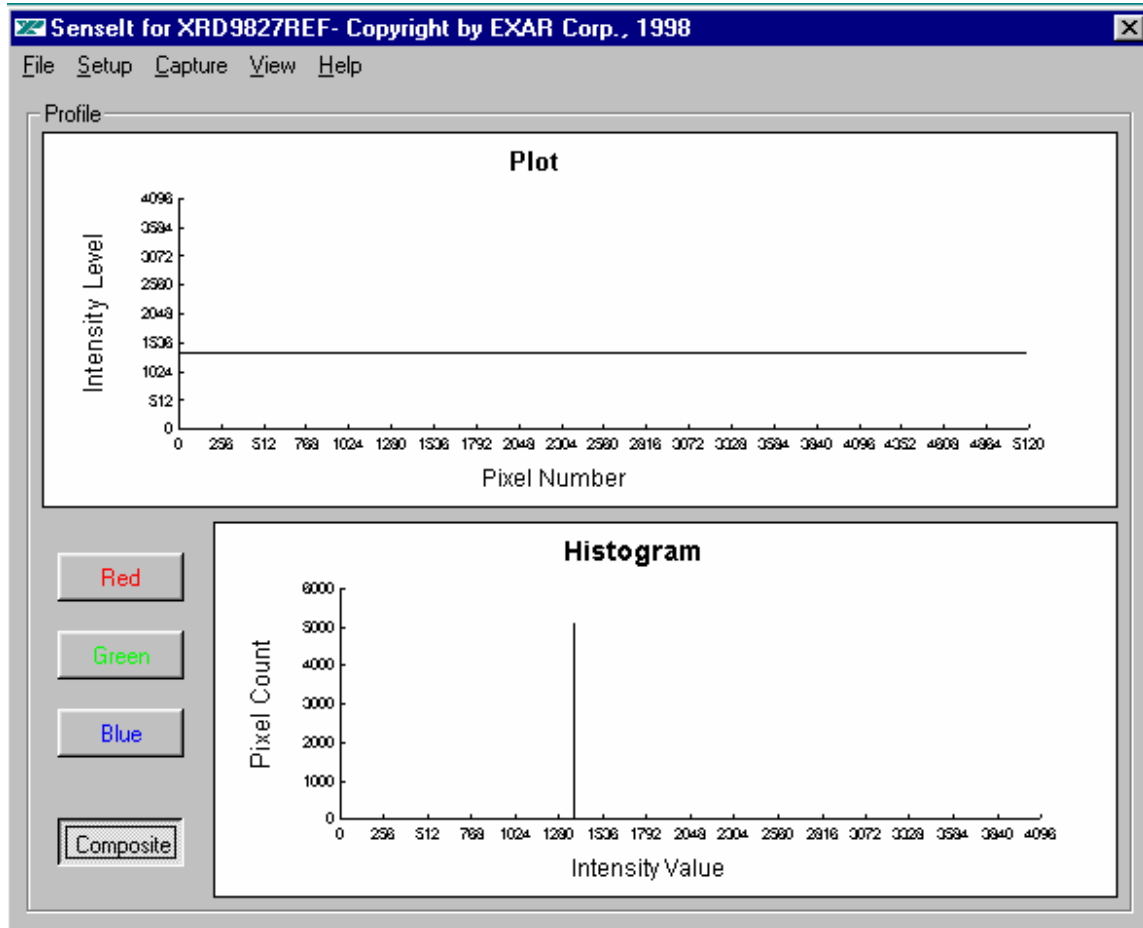

Figure 4. SenseIt Software Window Before Scanning
13. A window will pop up as shown below. The upper window shows the plot of captured data and the lower window shows the histogram of data. Figure 4 shows the pop-up window when SenseIt is first started.